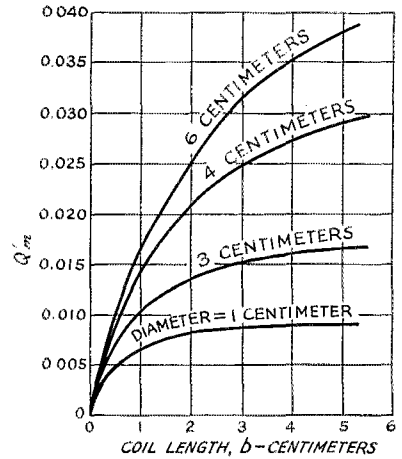
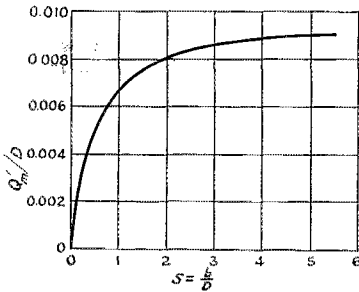

Fig. 4—Plot of equation (2), showing the variation in  $Q$  with length and diameter of coil, when the wire size is kept at the optimum value.
Fig. 5—Plot of equation (2) showing the variation in  $Q$  with the length/diameter ratio, when the wire diameter is optimum and the coil diameter is constant.
provided that the wire size is maintained at the optimum value. This equation is plotted in Figs. 4 and 5. Fig. 4 illustrates how the  $Q$  varies with length and diameter of the coil and Fig. 5 shows the variation in  $Q$  with the length/diameter ratio for a constant coil diameter. In the derivation of this relationship the effect of radiation was neglected and consequently equation (2) holds only when the maximum coil dimension is very small compared with the wavelength at which the coil is to be used.
It appears from equation (2) and from Fig. 4 that, when no economic limit is placed upon the coil dimensions, the  $Q$  increases as the diameter and length of the coil are increased. For a constant diameter of coil the  $Q$  increases with increasing coil length, but the increase is less rapid as large values of  $b/D$  are obtained. If the  $b/D$  ratio is kept constant, the  $Q$  increases directly as the diameter of the coil.